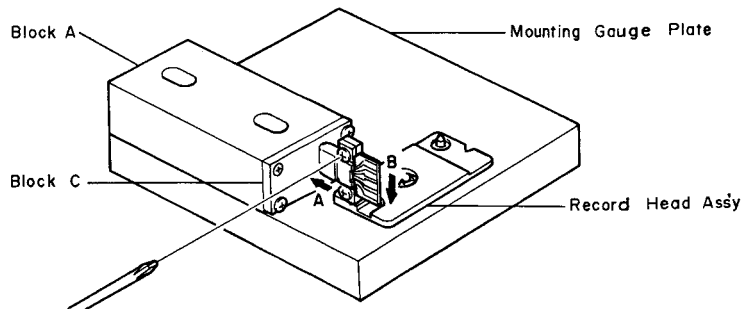

Fig. 4.22
- (5) Remove the Block B from the Mounting Gauge Plate.
- (6) As shown in Fig. 4.22, mount the R-8L record head assembly onto the Mounting Gauge Plate, then check the location of the R-8L record head surface. (If record head contacts to the Block C, loosen 2 pcs. of screws that assembled record head and R-8L record head assembly, then place the R-8L record head assembly onto the Plate.)
- (7) Remove the R-8L record head assembly from the Mounting Gauge Plate.
- (8) Readjustment of Record Head Mounting Gauge M-9048 (DA09048A)
- (9) Remove the Block B from the Mounting Gauge Plate.
- (10) Mount the R-8L record head assembly onto the Mounting Gauge Plate.
- (11) As shown in the Fig. 4.22, loosen the R-8L record head with 2 pcs. of screws onto the record head plate. As the location of the Block A is secured by the item (8)-(c), push the record head to the directions A and B, then tighten 2 pcs. of screws.
- (12) Check to insure freedom from gap between the Block C and record head surface, then tighten the 2 pcs. of screws on the record head plate with lock tight paint.
- (13) Assemble the record head assembly to the head mount base assembly.
- (14) Assemble the head mount base assembly to the mechanism assembly.
- (15) Check the record head stroke.